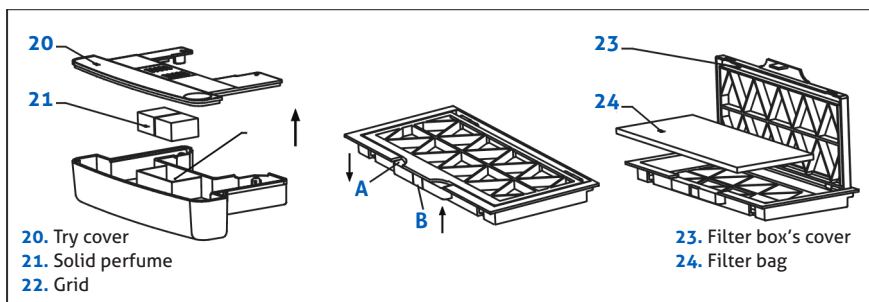

Figure 8
1. Remove tray cover and you will find a grid in tray. A solid perfume can be put here to bring fresh air while drying hands (see fig.8).
2. Remove filter box, open its cover, there is a filter bag inside. It can prevent blockage of dust lint comes from air inlet. Please contact our distributors to order this filter bag (see fig.8).